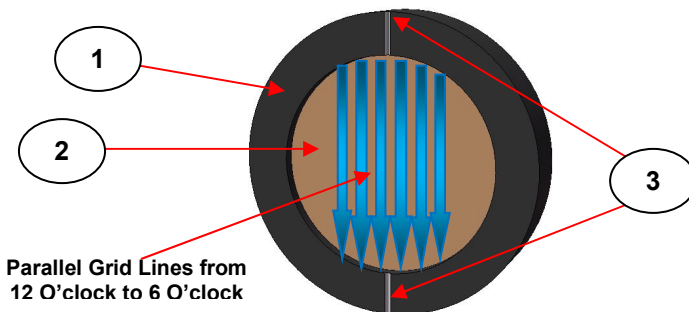

Fig 3. Polarizer Grid Line Orientation of Parallel Lines on the Substrate Surface of the GS57500 Polarizer
To determine the polarizer grid line pattern (2500 lines per mm) that has been deposited onto the substrate (2), if the one of the grooves (3) is positioned at a 12 O'clock position, the grid lines of the polarizer run parallel to the diameter of the substrate (2) that passes through **both** grooves (3) at the 12 and 6 O'clock positions on the ring mount (1). (See Fig 3.)